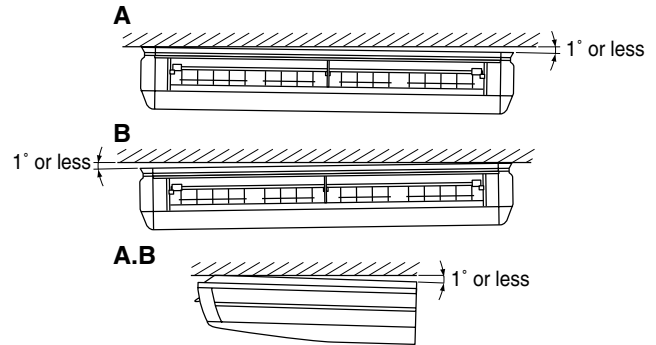

Fig. 12
(5) **When hanging the indoor unit main body, be sure to use a level or a plastic tube with water in it to make sure the drain piping is set either level or slightly tilted to ensure proper drainage. Refer to Fig. 12**